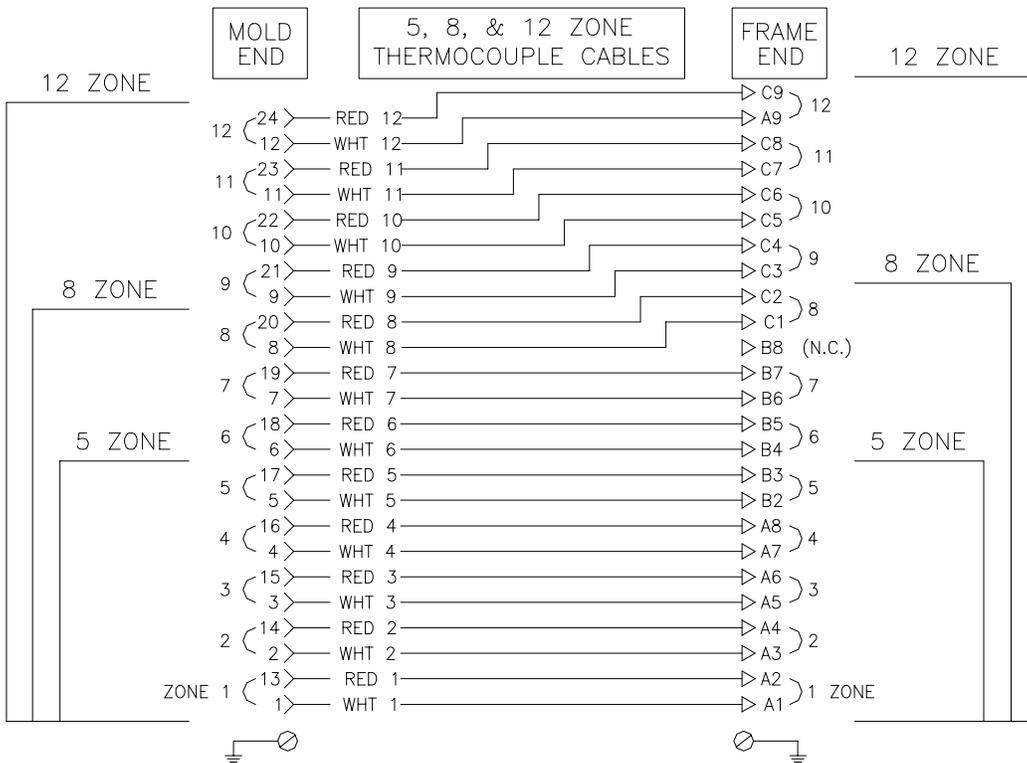

Figure 25 - Schematic of 5, 8, & 12 Zone, Thermocouple Cables
- ◆ Thermocouple cables in 10 foot or 20 foot lengths (see below). A schematic diagram of these cables is shown in Figure 25.